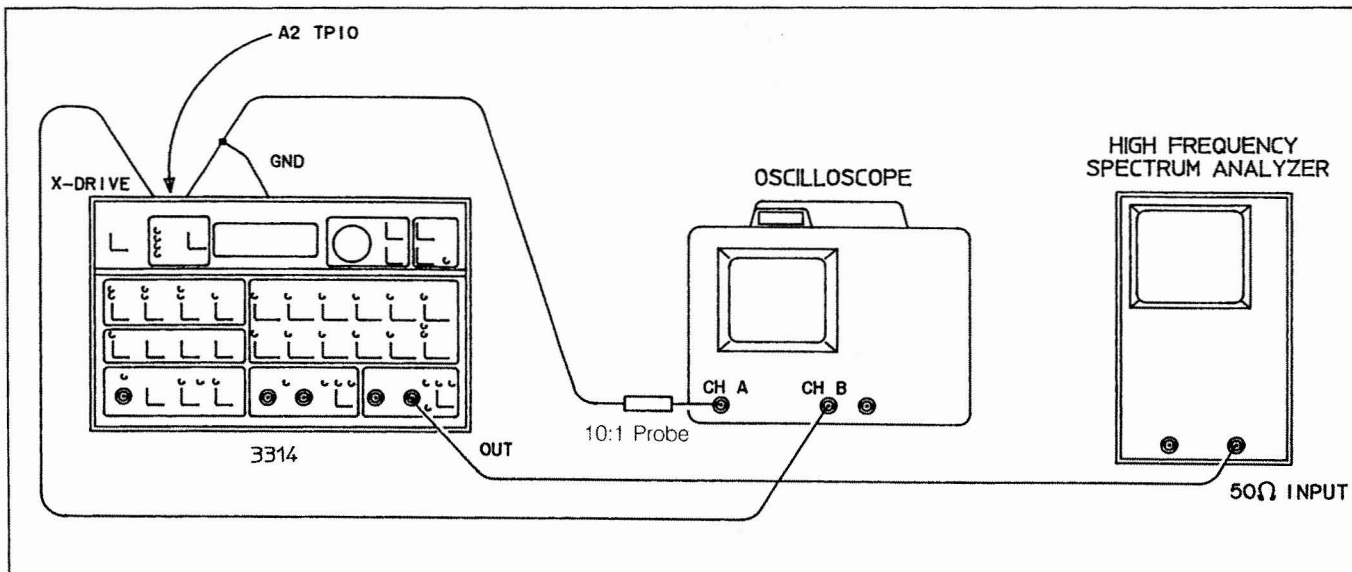

Figure 5-15. High Frequency Harmonic Distortion Adjustment
G. Connect the 3314A to the oscilloscope and spectrum analyzer. (See Figure 5-15.)